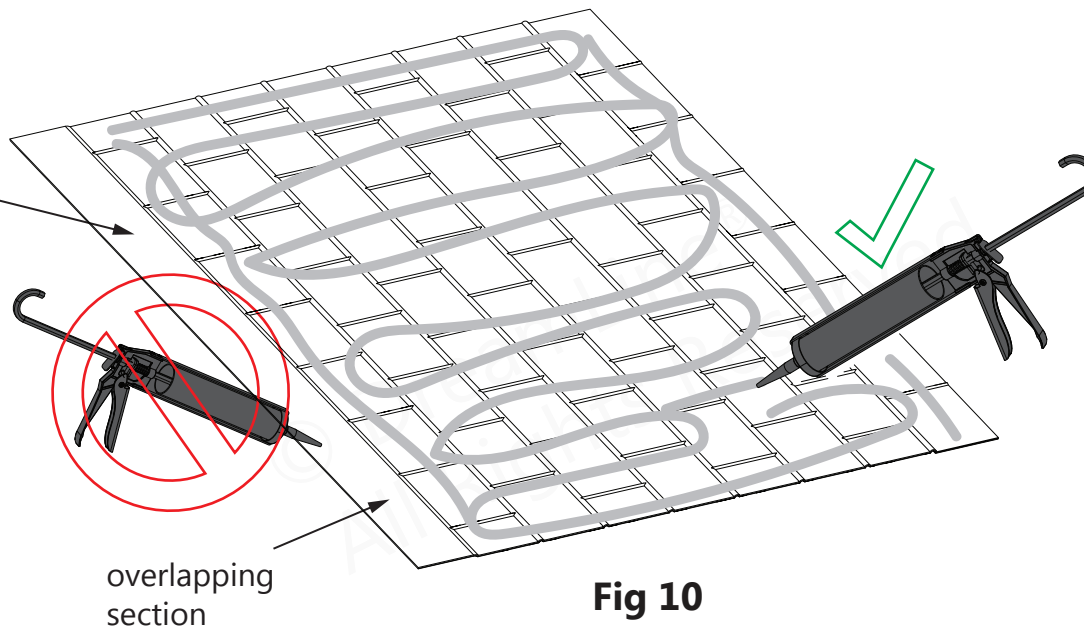

**Fig 9**
**9.** Remove the overlap back panel and then apply clear silicone to the face of the underlap on the installed **Q-Wall Back Panel** (where the two back panels will overlap). **Fig 9**